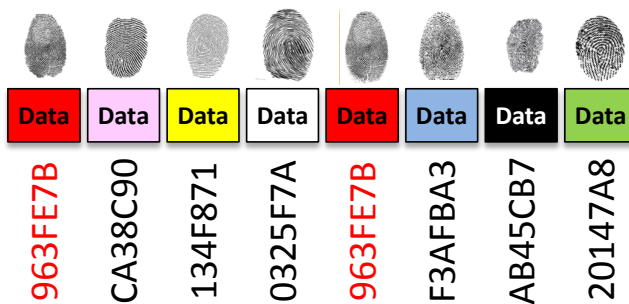

Figure 5. Fingerprint Allocated to Each Block
2. For every data block, the array allocates a unique fingerprint to the data, as shown in Figure 5.